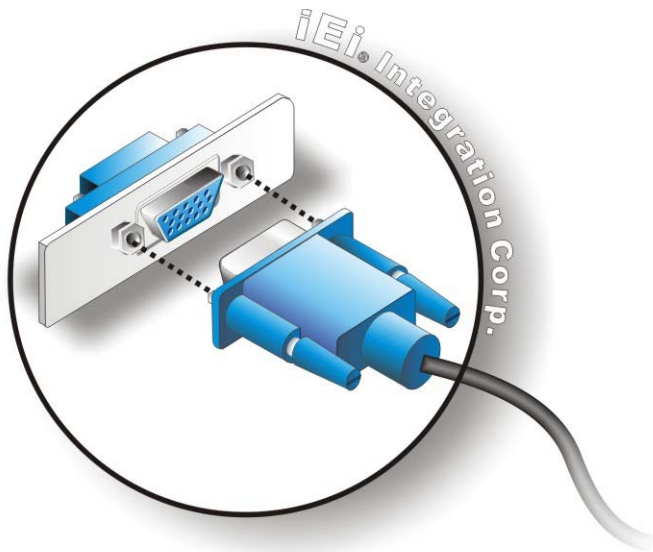

Figure 3-29: VGA Connector
- Step 3:** **Insert the VGA connector** Once the connectors are properly aligned with the insert the male connector from the VGA screen into the female connector on the AFL-HM55 Series. See **Figure 3-29**.